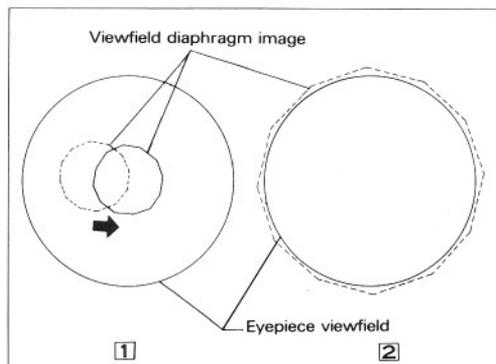

Fig. 25
- 7) Using the 4X objective, adjust the size of viewfield diaphragm so that the viewfield image coincidence with the eyepiece field, as shown in Fig. 25 - 2 . Then, if they are found decentered from each other, do centering by means of the condenser centering screws.
- 6) Using the 4X objective, adjust the size of viewfield diaphragm so that the viewfield image coincidence with the eyepiece field, as shown in Fig. 25 - 2 . Then, if they are found decentered from each other, do centering by means of the condenser centering screws.